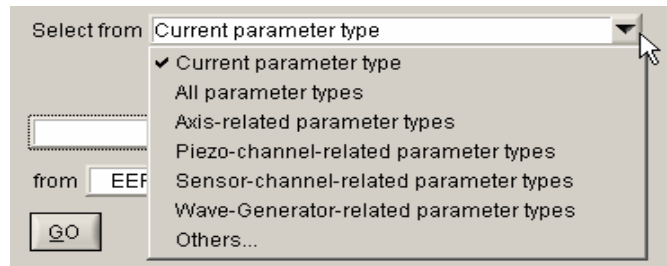

Fig. 40 Select from list box with list open
- In the *Select from* selection box, the user selects the parameter type to work with (see Fig. 40).